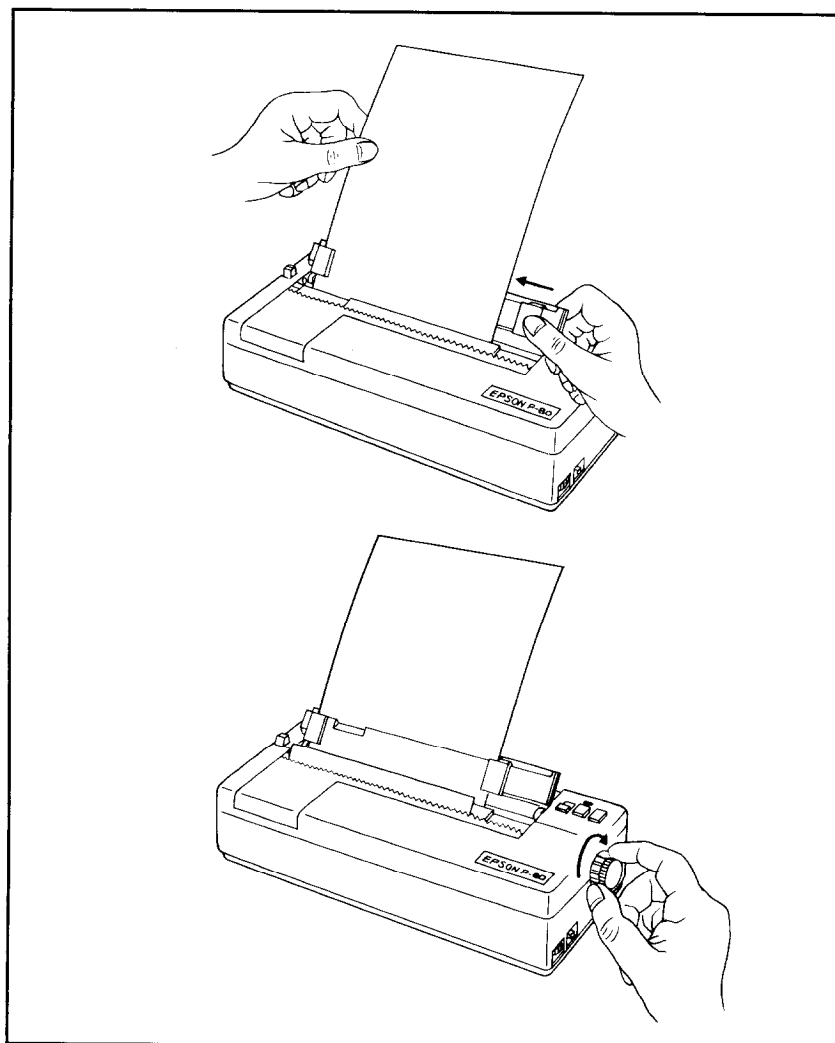

Figure 3-1. Loading the paper
1. Place your paper at the top of the paper guide and slide it underneath the left holder (Figure 3-1).
4. Turn the manual-feed knob clockwise until the paper feeds through to the front as shown in Figure 3-1.